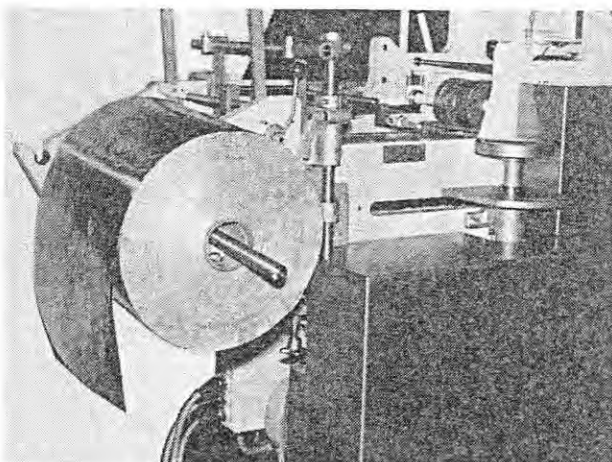

Fig. 95
9. Slip the wrapper roll on the dispenser axle in such a way that the wrapper can be rolled off downwards (Figure 95).